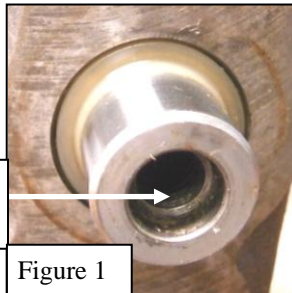

Figure 1
1. Apply one (1) drop of Loctite to threaded portion of Valve Spool as shown in Figure 1.